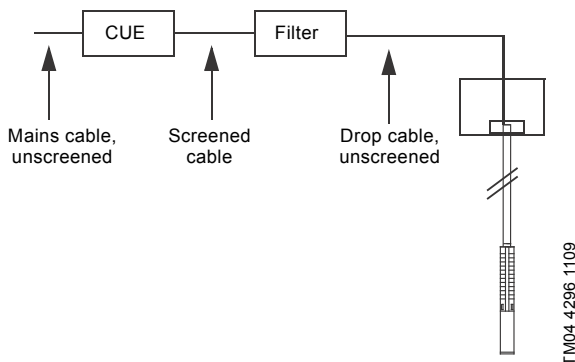

Fig. 22 Example of installation in EMC-insensitive sites
- installation in EMC-insensitive sites. See fig. 22.